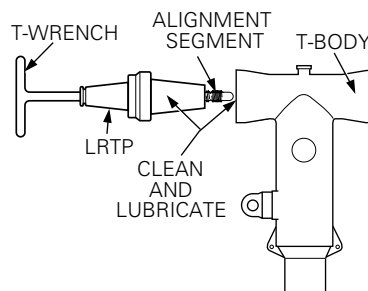

Figure 8. LRTP installation into T-body
- Insert the 600 A alignment segment end of the LRTP into the side of T-body opposite the apparatus bushing. (Refer to Figure 8.)